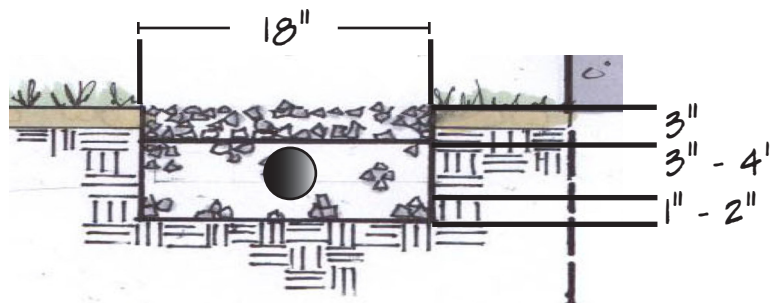

Figure 2. Profile for slowly draining soils.
*For Slowly Draining Soils:* Fill the bottom 1" - 2" of the trench with crushed stone. Lay a 4" perforated pipe with the holes facing up along the trench. The end of the pipe should either outlet to a vegetated area with a **splash guard** to prevent erosion or to another treatment practice such as a dry well or a rain garden. The pipe should be sloped toward the outlet so the water easily flows out of the pipe. Cover the pipe with non-woven geotextile fabric and fill the remainder of the trench with stone (Figure 2).